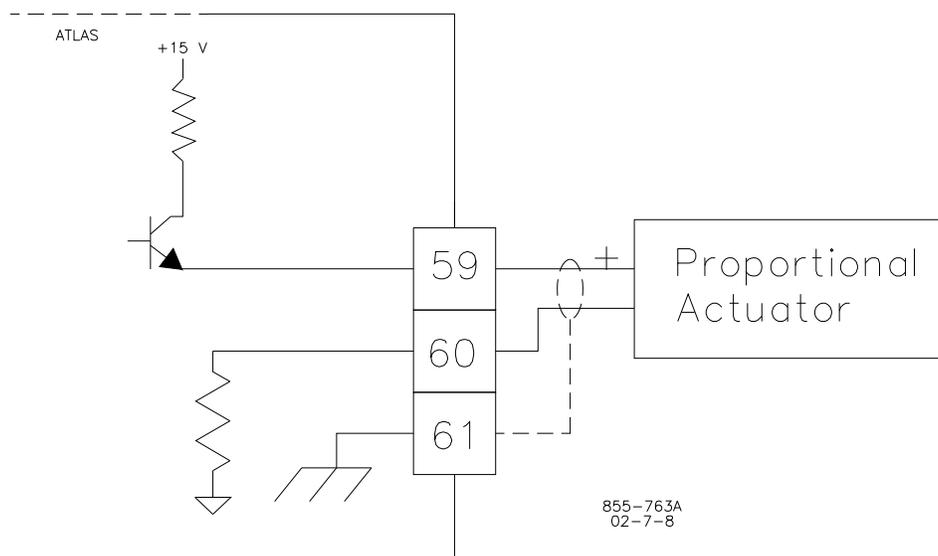

Figure 4-8. Actuator Output Interface to the SmartCore Board (wiring example)
- Refer to Figure 4-8 for actuator output wiring.